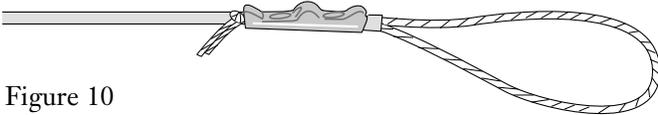

Figure 10
5.7 The completed pull line loop should resemble Figure 10.